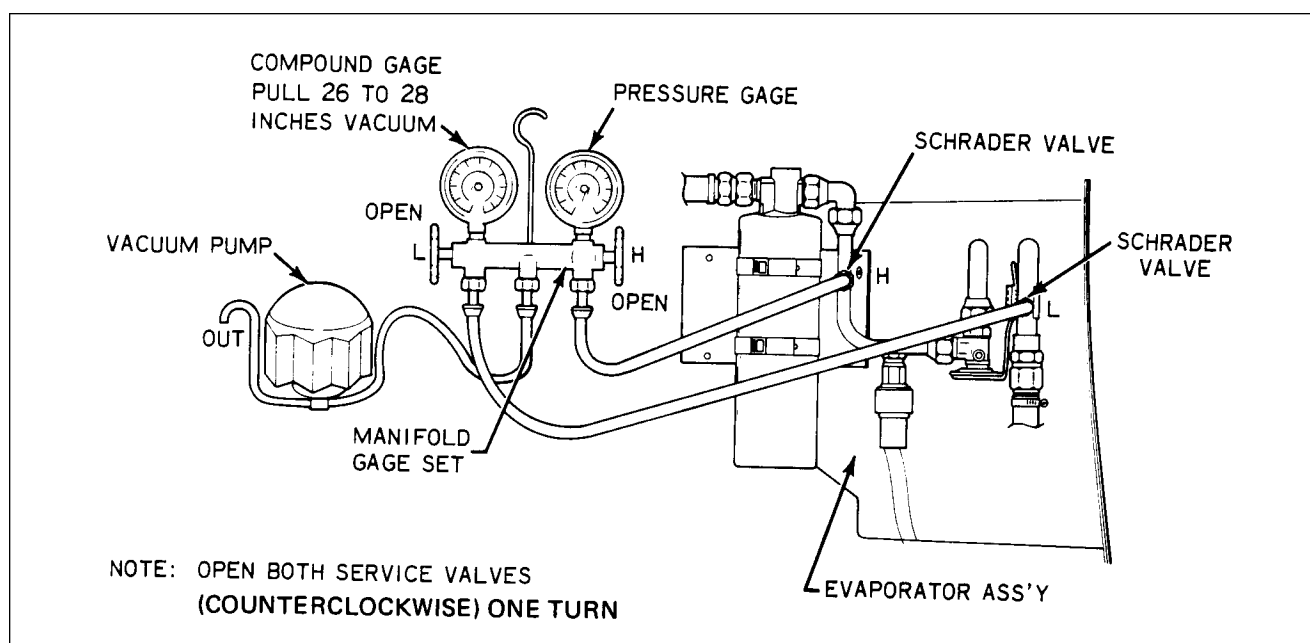

Figure 14-6. Evacuation Hookup
- b. Connect the manifold gauge set to the airplane service valves. (Refer to Figure 14-6.)